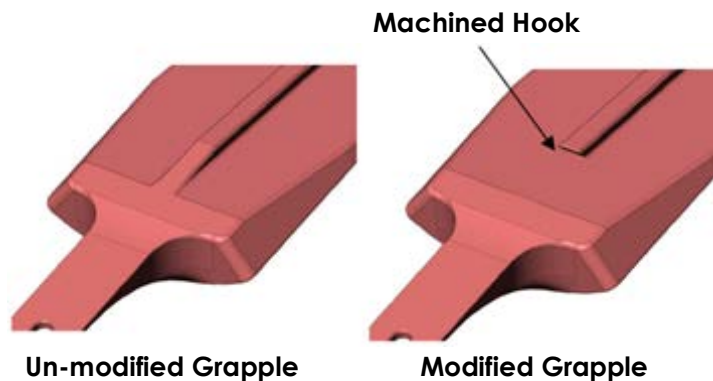

Figure 4
3. Modification of 'on hand' Grapples – (all grapple sizes 17-7/8" to 20") - qty. 5 per set – See Figure 4.